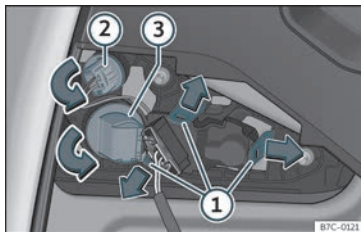

Fig. 52 Remove the bulb holder.
- Unlock the securing tabs from the bulb holder»» **Fig. 52** ① or turn the bulb holder to the left ② and ③.